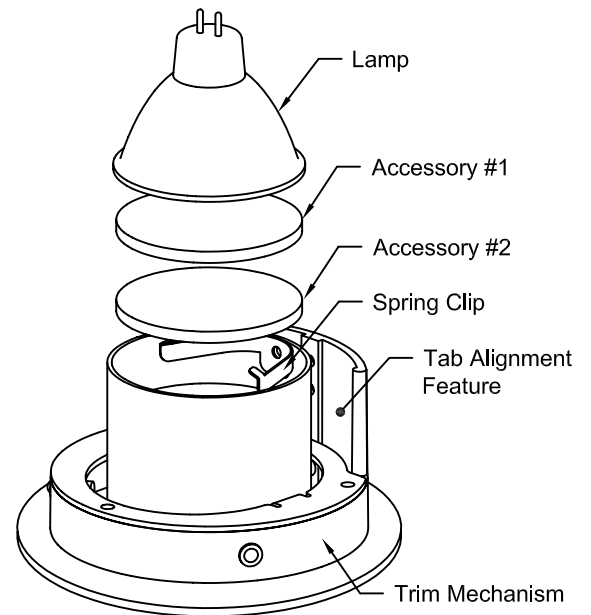
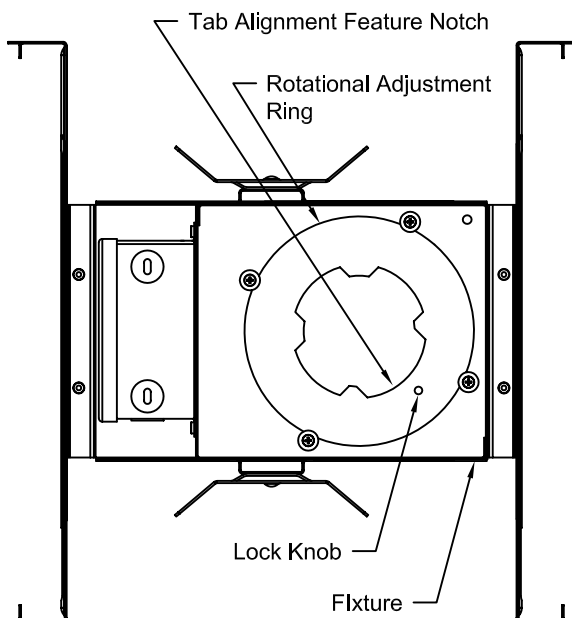

Figure 3
Figure 4
*Lamp Bracket accommodates from one (1) to three (3) accessories.
2. Slide out Lamp and/or Accessories from under Bracket Arm to remove. See Fig. 3.
4. To ensure original light beam placement, align Tab Alignment Feature on Trim Mechanism (See Fig. 3 & 4) with Tab Alignment Feature on Rotational Adjustment Ring inside Fixture (See Fig. 4).
3. Tighten Lock Knob inside Fixture to lock Rotational Adjustment Ring. See Fig. 4.